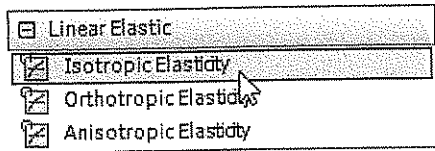

Figure 6-14 Choosing Isotropic Elasticity from the Linear Elastic toolbox
- 7. Double-click on the **Isotropic Elasticity** under the **Linear Elastic** toolbox, refer to Figure 6-14; **Isotropic Elasticity** is added to the **Properties of Outline** window.